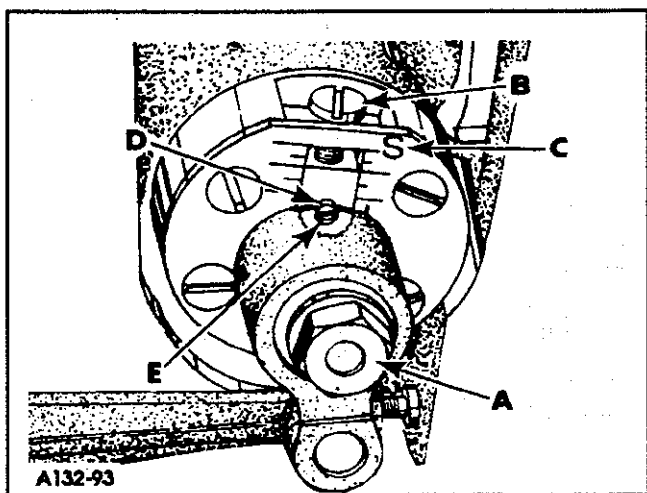

FIG. 14
Set the stitch to required length. This is accomplished by loosening locknut (A, Fig. 14) $1/2$ turn (it has a left hand thread) on the end of the stitch regulating stud and turning stitch adjusting screw (B) located under the left end of the cloth plate, in the head of the main shaft (C), which is marked with "L" and "S". Turning the screw clockwise shortens the stitch (moves stitch regulating stud toward the "S") and turning it in a counterclockwise direction lengthens the stitch (moves stitch regulating stud toward the "L"). Re-tighten locknut securely.
To prevent destructive damage to the feed drive bearing, the Key screw (D) must engage the "U" shaped key slot in the ferrule (E). Torque nut (A, Fig. 14) to 55 in. lbs. (6.2 Nm).